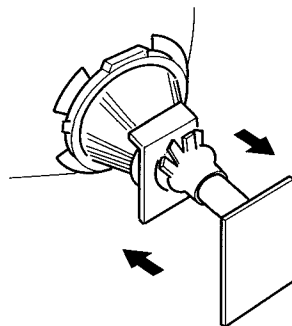

Fig. 1
5. Move the deflection yoke forward, and adjust so that the entire screen becomes green. (Fig 1)